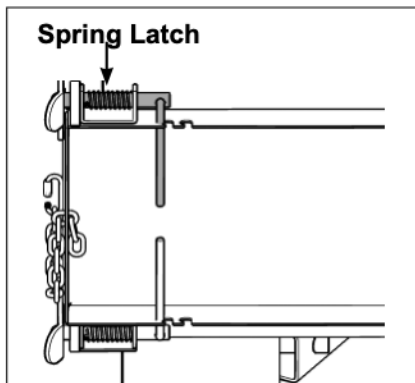

Figure 2a - Top left spring latch in "locked" position.
2. Lift spring-pin handles and continue pulling inward secure the handles in the "unlock" position (see Figure 2a-b).